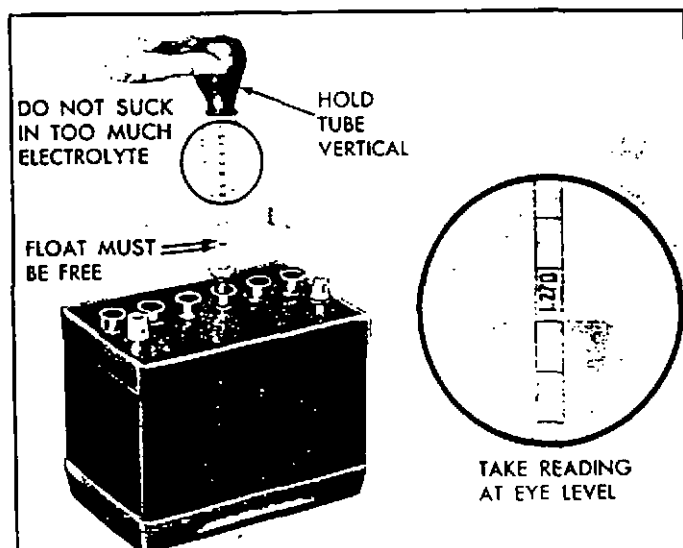

Fig. 7—Testing Specific Gravity of Battery
1. Measure the specific gravity of the electrolyte in each cell (fig. 7). If it is below 1.230 (corrected to